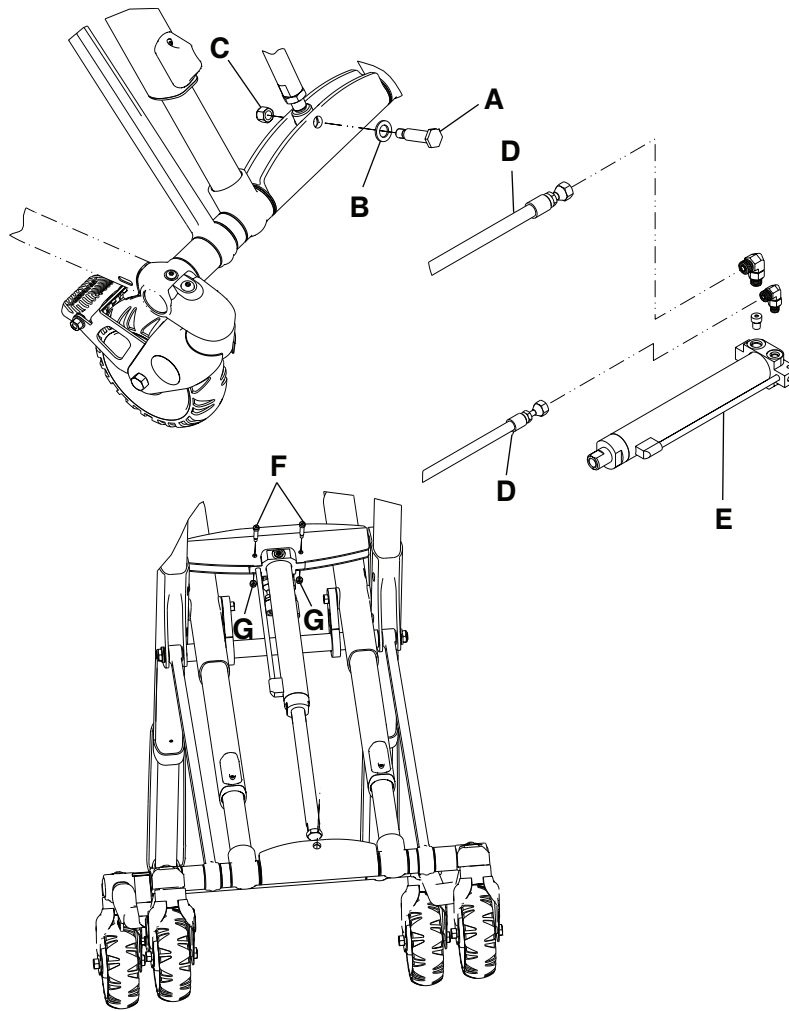

Figure 13 – Hydraulic cylinder replacement
3. Using a 3/4" and 9/16" combination wrench, remove the rod attachment pin (A), washer (B), and Nylock hex nut (C) that secure the hydraulic cylinder to the base (Figure 13). Save all parts.
5. Using an 11/16" combination wrench and a 13/16" combination wrench, remove both hoses (D) from the hydraulic cylinder (E) (Figure 13).
7. Using a 1/8" hex wrench and 3/8" combination wrench, remove the two socket head set screws (F) and Fiberlock hex nuts (G) that secure the hydraulic cylinder to the base (Figure 13). Save the nuts and screws.